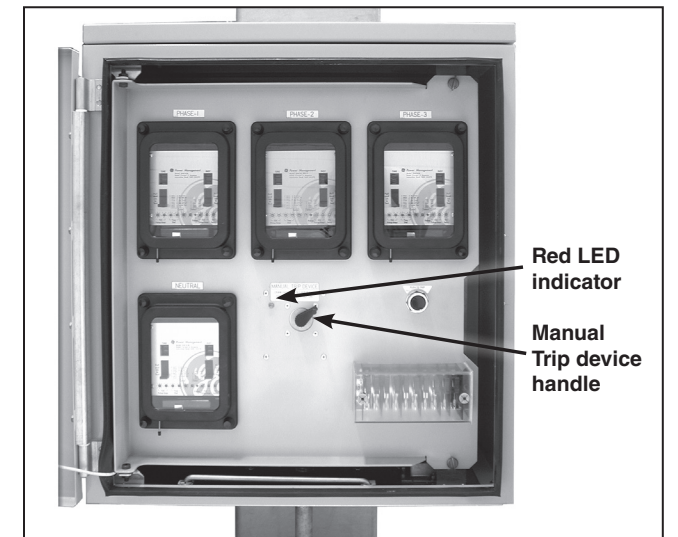

Figure 23. Crank the manual Trip device handle 5 to 10 times until the red LED indicator starts flashing.
- Proper condition of the manual Trip device (Crank it 5 to 10 times. Check that the red LED indicator is flashing. See Figure 23.)